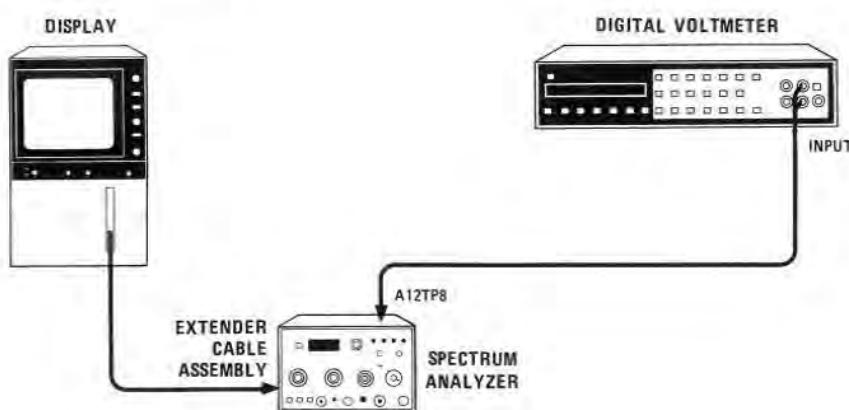

FIGURE 5-12. + 19.5V ADJUSTMENT TEST SETUP
2. Connect equipment as shown in Figure 5-12. Connect digital voltmeter to A12TP8 (left side of A12R7 + 19.5V adjustment).